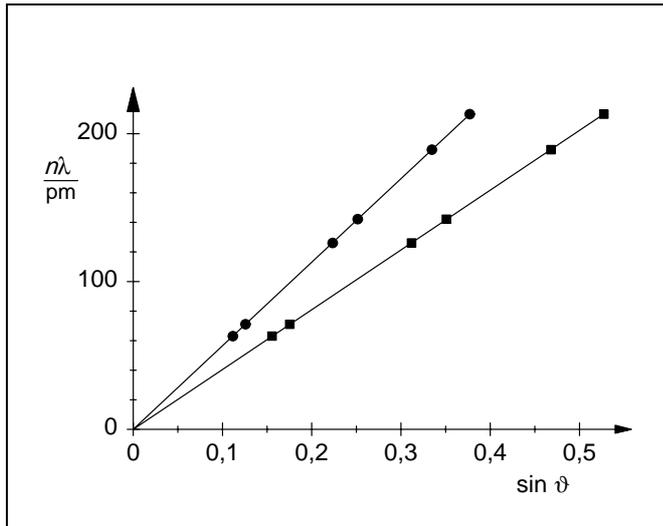

Fig. 6 Value pairs as a function of $\sin \vartheta$
- For each glancing angle ϑ , calculate the values $\sin \vartheta$ and and plot these value pairs in a diagram (see Fig. 6).